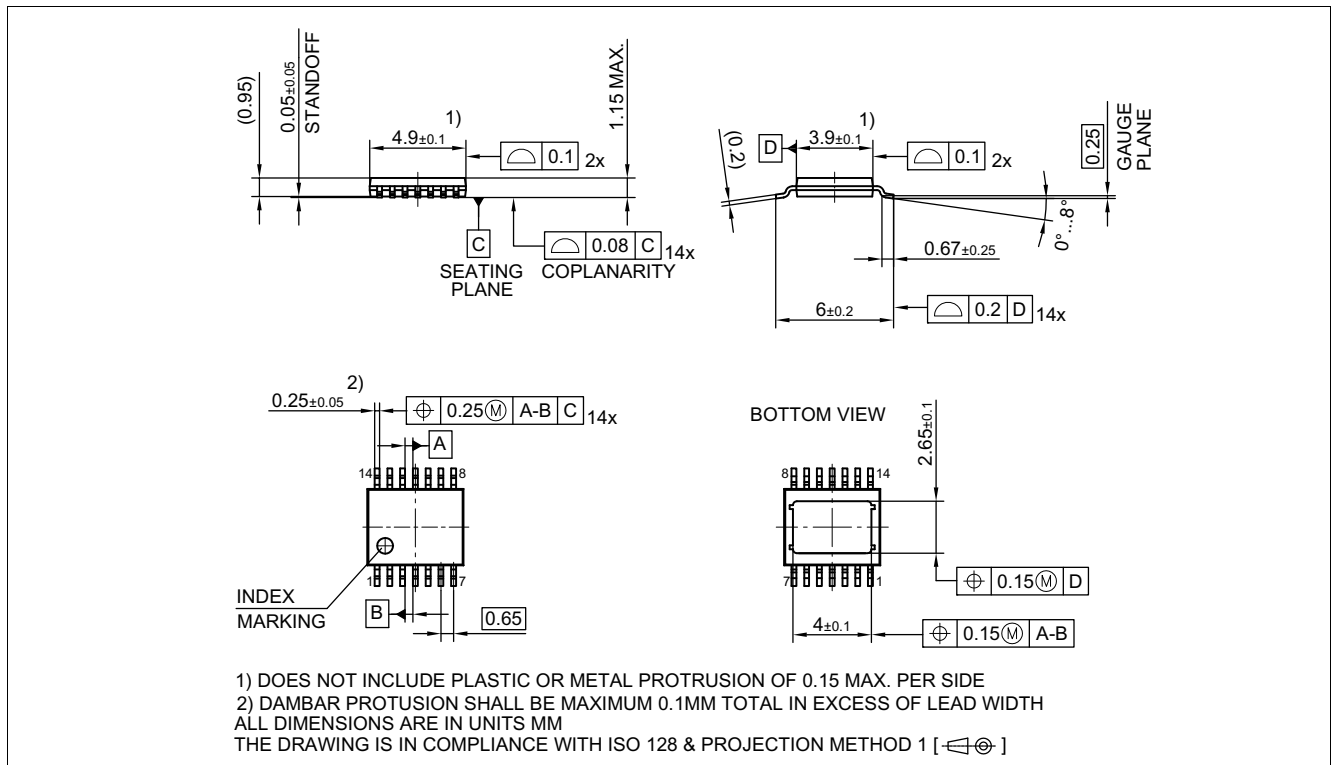
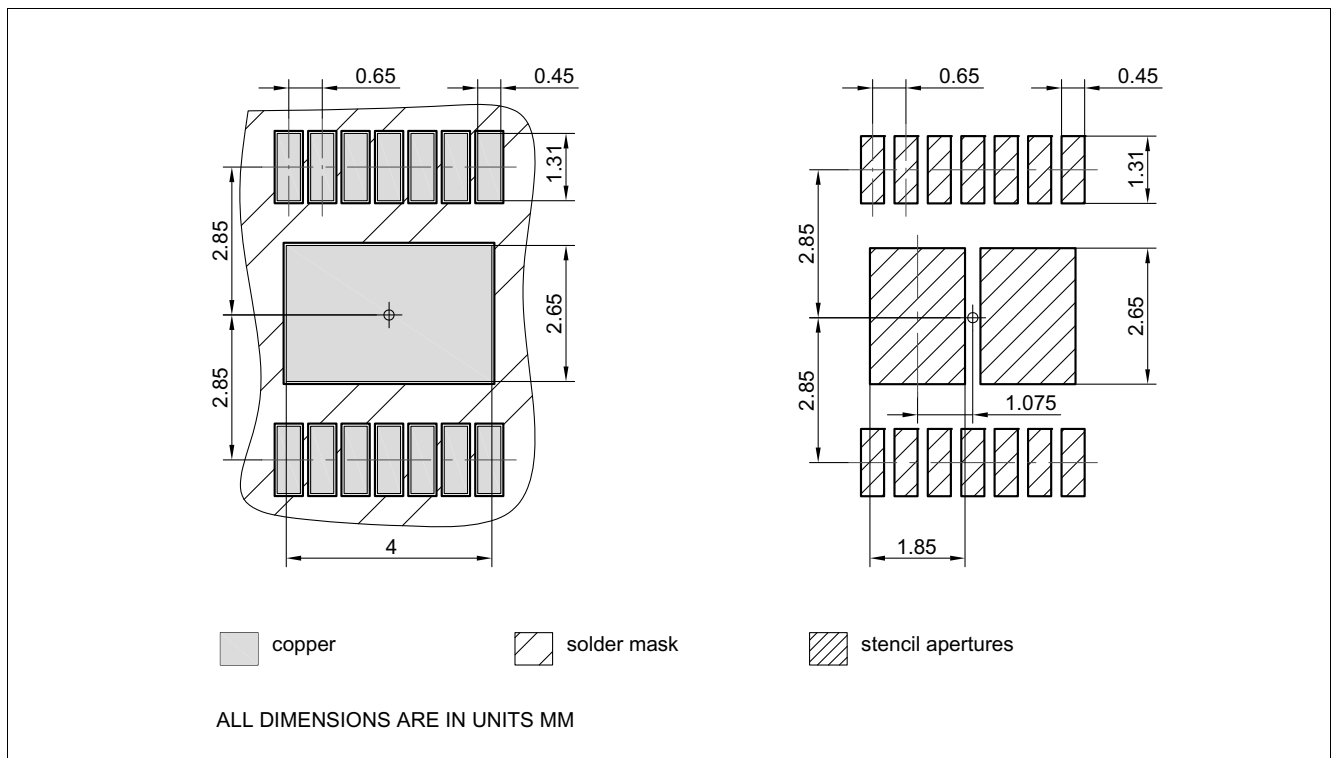

Figure 43 PG-TSDSO-14 (Thin (Slim) Dual Small Outline 14 pins) Package Outline
Figure 44 PG-TSDSO-14 (Thin (Slim) Dual Small Outline 14 pins) Package pads and stencil
1.01, 2019-06-26	<p>Chapter 9.2 updated (2 V → $V_{DS(OLOFF)}$) General: updated (ReverSave™ → ReverseON) Figure 1 updated Chapter 1 updated ((inserted headline "Product Validation"), (Qualified in accordance with AEC Q100 grade 1 → Qualified for automotive applications. Product validation according to AEC-Q100 Grade 1.)) General: updated Product Name (PROFET™+2 → PROFET™+2 12V) Page 1: updated figure product Table 23 updated punctuation Chapter 9.3.1 updated (typo) Page 1: updated (Package PG-TSDSO-14-22 → Package PG-TSDSO-14) Figure 29 updated Figure 43 updated (PG-TSDSO-14-22 (Thin (Slim) Dual Small Outline 14 pins) Package Outline → PG-TSDSO-14 (Thin (Slim) Dual Small Outline 14 pins) Package Outline) Figure 44 updated (PG-TSDSO-14-22 (Thin (Slim) Dual Small Outline 14 pins) Package pads and stencil → PG-TSDSO-14 (Thin (Slim) Dual Small Outline 14 pins) Package pads and stencil) Table 1 updated ((Symbol: $I_{VS(SLEEP)}$ → $I_{VS(SLEEP)_{85}}$), (Parameter: Minimum Overvoltage protection ($T_J = 25\text{ °C}$) → Minimum Overvoltage protection ($T_J \geq 25\text{ °C}$)) P_9.6.0.6 updated (Note or Test Condition: removed unnecessary line-break)</p>